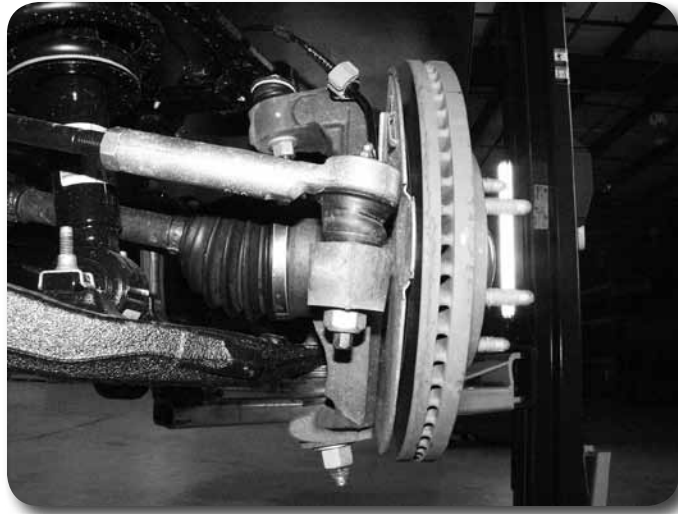

Figure 2
7. Disconnect the steering from the knuckle **Figure 2**. Remove the tie rod end nut. Strike the knuckle near the tie rod end with a hammer to dislodge it. Save the mounting nut.